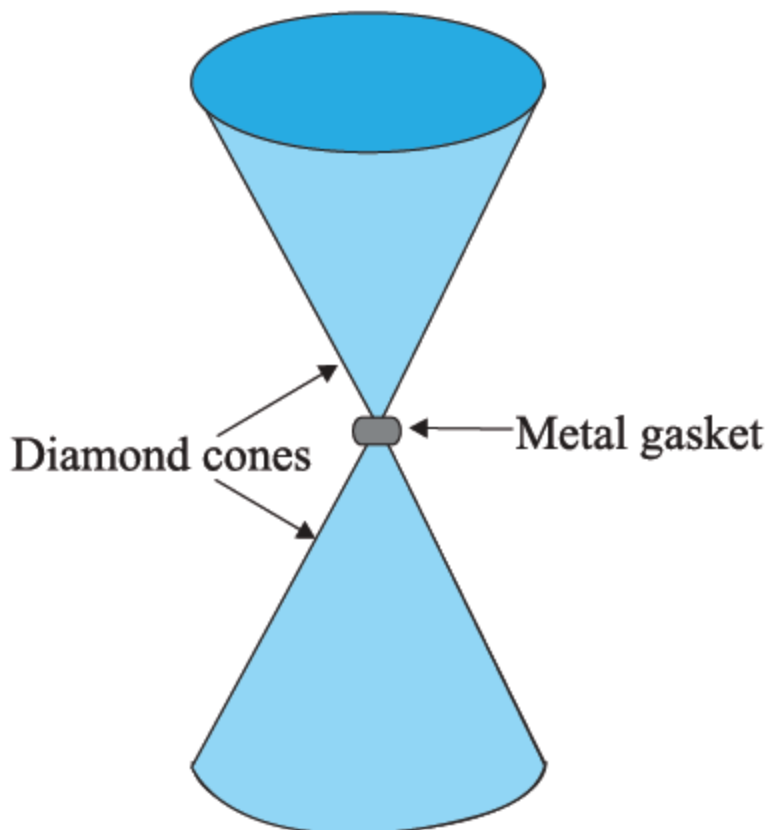

Fig. 9.14
9.17. Anvils made of single crystals of diamond, with the shape as shown in Fig. 9.14, are used to investigate behaviour of materials under very high pressures. Flat faces at the narrow end of the anvil have a diameter of 0.50 mm, and the wide ends are subjected to a compressional force of 50,000 N. What is the pressure at the tip of the anvil?